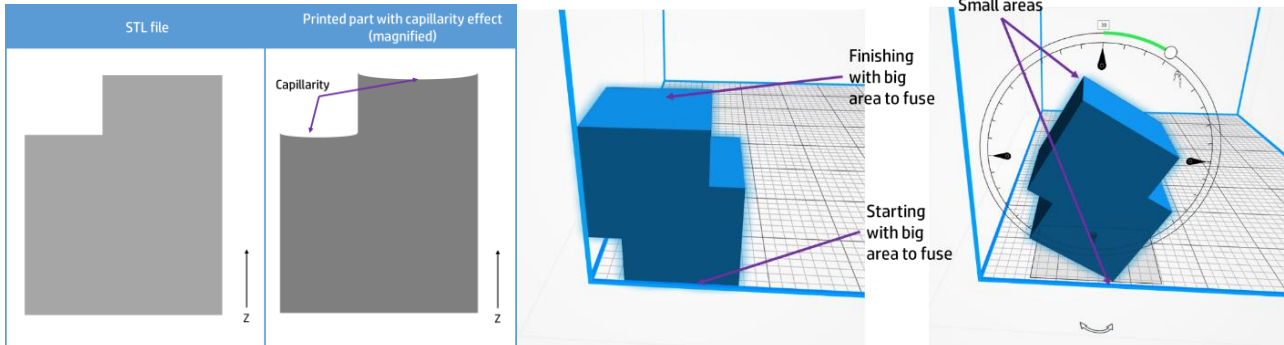

Figure 23: **Left)** A diagram representing the fluidic nature of the capillarity phenomenon. **Right)** Rotation suggestion to reduce capillarity.
This effect is intrinsic to powder-bed technologies that rely on melting powder to consolidate objects layer by layer. When an area is fused, it behaves as a fluid and tends to raise up along its borders (as does water inside a glass), as shown in **Figure 23**. Thus, larger areas parallel to the XY-plane are more prone to capillarity, and for them, it is **recommended to rotate the part to mitigate it (Figure 23)**.
- **Avoid large flat areas** on the last layer to be printed. It is recommended to rotate the parts (**Figure 23**).